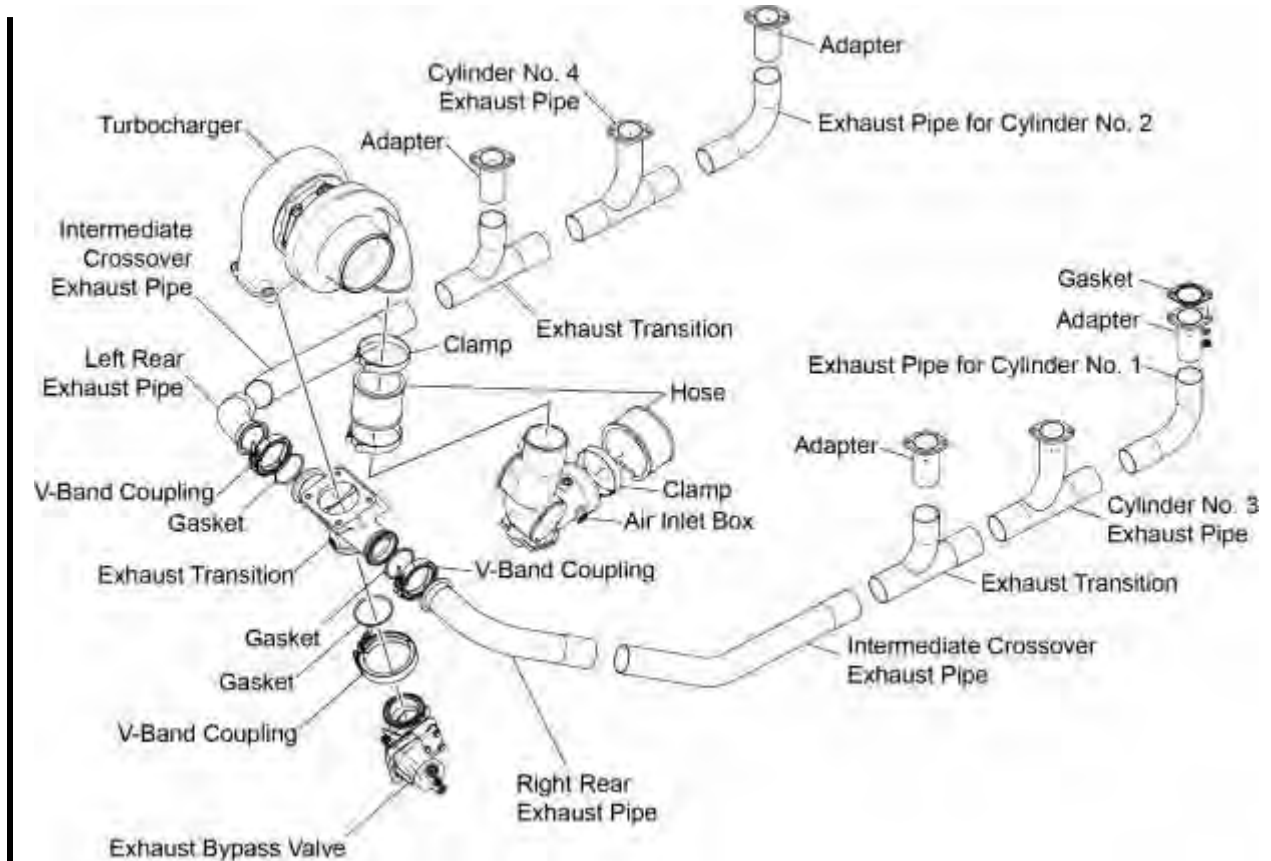

Figure 3
- B. Examine the exhaust system gaskets (Figure 3) for damage. Replace a damaged exhaust system gasket.
**CAUTION** ALL OF THE FLANGE SURFACES MUST BE ACCURATELY ALIGNED. IF EXHAUST COMPONENTS ARE INCORRECTLY ALIGNED, THEY CAN CAUSE TOO MUCH STRESS TO THE FLANGES OF THE EXHAUST PIPES (FIGURE 3). THIS MISALIGNMENT ALSO CAN CAUSE GAS LEAKAGE AT THE SLIP JOINTS OF THE INTERMEDIATE PIPE AND FLANGE JOINTS OF THE LEFT AND RIGHT PIPES.
- C. Examine the exhaust pipe and attachments (Figure 3) for cracks.
- I. Examine the exhaust pipe segments that are attached to the exhaust bypass transition assembly (Figure 3). Record all cracks on welds and attaching flanges. Replace cracked components.